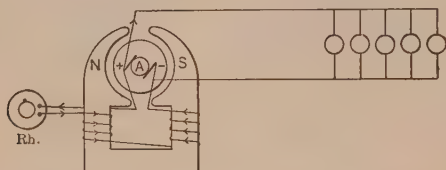

FIG. 119. Shunt generator, supplying incandescent lamps with current.
**59. Shunt Generator.** When the fields are excited by a current shunted around the main circuit, as in Fig. 119 and 120, many turns of fine copper wire are used. In this case it is not desirable to have a large current going through the coils, because every bit thus used is really stolen from current available for the outside circuit. The resistance of the coils is therefore high. The necessary
**60. Building Up of Shunt Field.** Even when no current flows through the field coils of a machine there is always a small amount of magnetism in the field. So when we start up a shunt generator, the armature conductors are revolving in a very weak field. But as the wires of the armature cut through this weak field, a small voltage is produced across the brushes. Now, since the field coils are connected directly across the brushes (see Fig. 119 and 120), a small current will be sent through these windings. This will slightly increase the strength of the magnetic field. As the armature now revolves in this increased field, the voltage across the brushes will be raised a little, which in turn will send a larger current through the field coils, which still further increases the magnetic field, raises the voltage, and increases the field current. This is called the **building up** process of the field, and it continues until the fields have enough magnetism to produce full voltage, the value of which depends upon the speed of the armature and the resistance of the field circuit. This process usually takes from 10 to 30 seconds. After the voltage has become constant, it can be controlled further and set to any definite value within the limits of the machine, by means of an adjustable resistance in series with the field. If the voltage is too high, it can be lowered by increasing the resistance, thus lowering the field current, which weakens the magnetic field and therefore lowers the voltage produced in the armature conductors. We can also raise the voltage by increasing the speed of the armature, or lower the voltage by decreasing the speed of the armature. Then the voltage across the brushes remains constant and is ready to deliver current to the outside line.